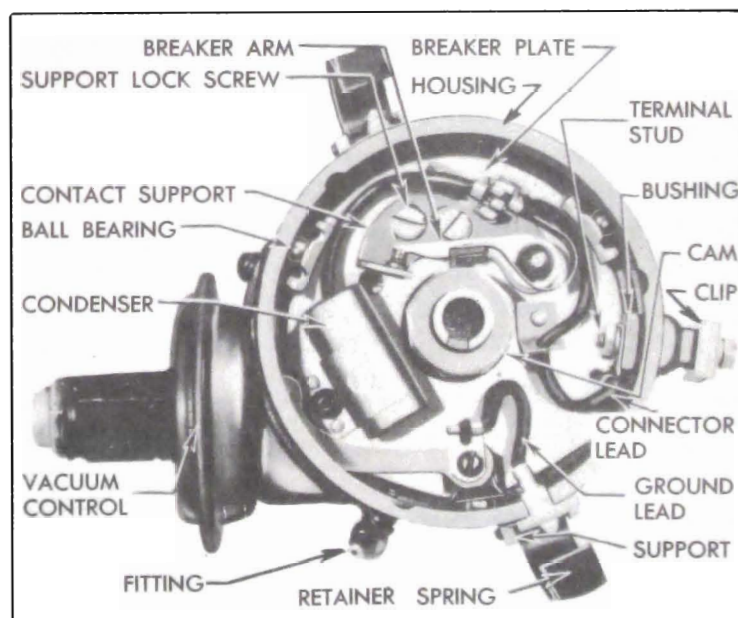

Figure 10-84—Distributor Parts—1948 Model Shown
1. Remove rotor and breaker plate ground lead, then remove the vacuum control. See figure 10-84.
5. Install terminal stud and bushing, and attach connector lead to stud. See figure 10-84.